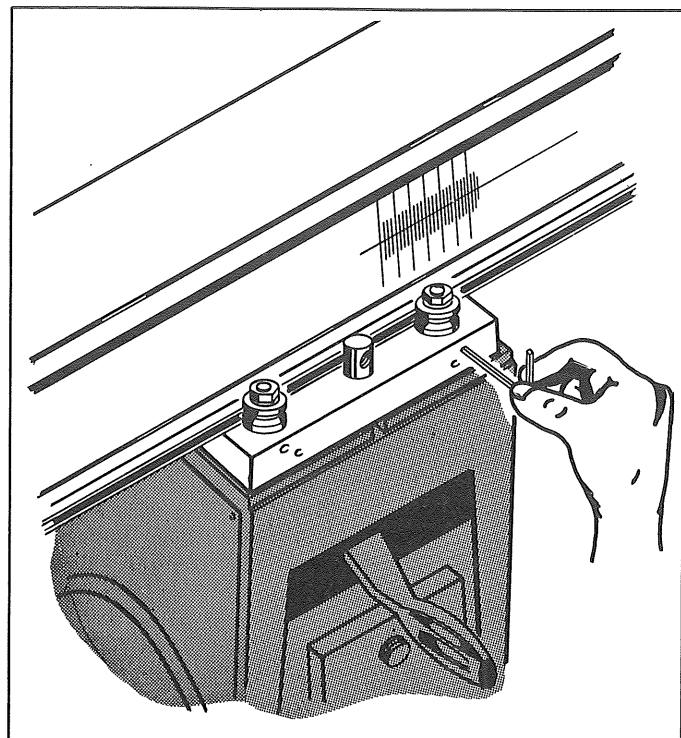

FIG. 12
6. Loosen set screws on side of carriage. Fig. 12.